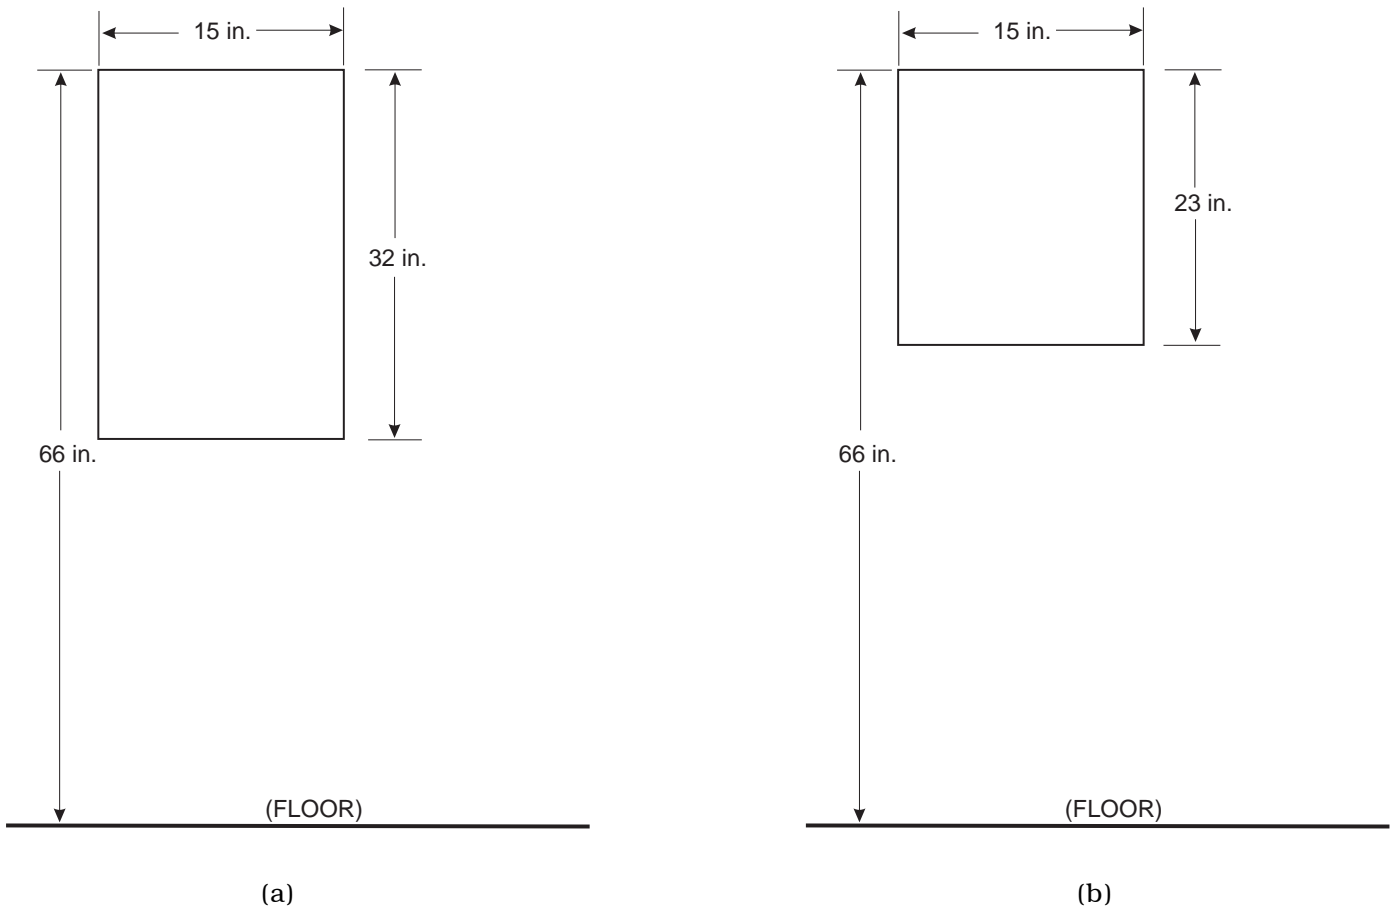

Figure 2-2. Rough Openings for 3-Tiered (a) and 2-Tiered (b) Main and Expansion Enclosures
- approximately 15 in. wide by 32 in. high (see Figure 2-2 (a) for 3-Tiered Enclosure)
- approximately 15 in. wide by 23 in. high (see Figure 2-2 (b) for 2-Tiered Enclosure)